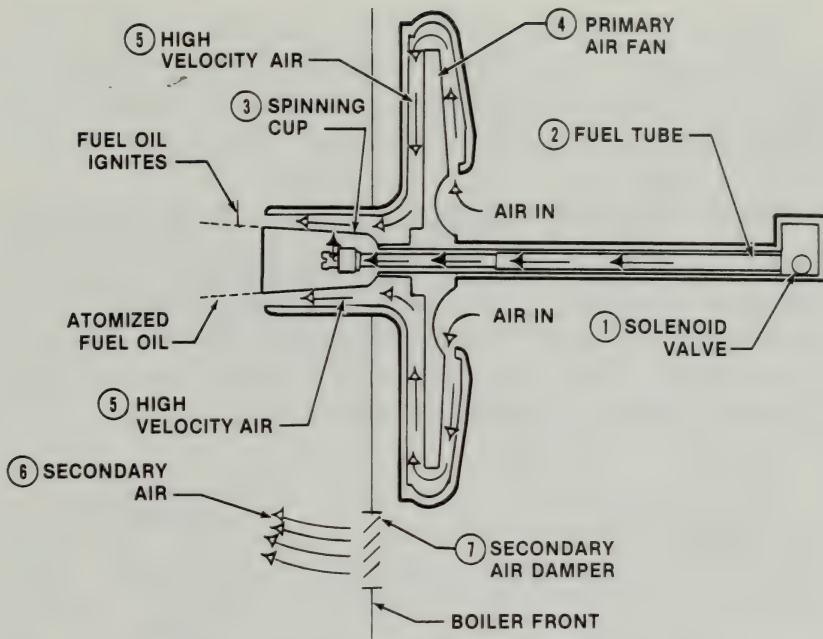

Figure 5-7. The rotary cup burner atomizes fuel oil using a film of fuel oil on a spinning cup.
The rotary cup burner atomizes fuel oil using a spinning cup and high velocity air. See Figure 5-7. The solenoid valve (1) controls the flow of fuel oil through the fuel tube (2). Fuel oil flows onto the spinning cup (3), which is rotating, and forms a thin film. The spinning cup increases the velocity of the fuel oil as it moves toward the end of the cup.